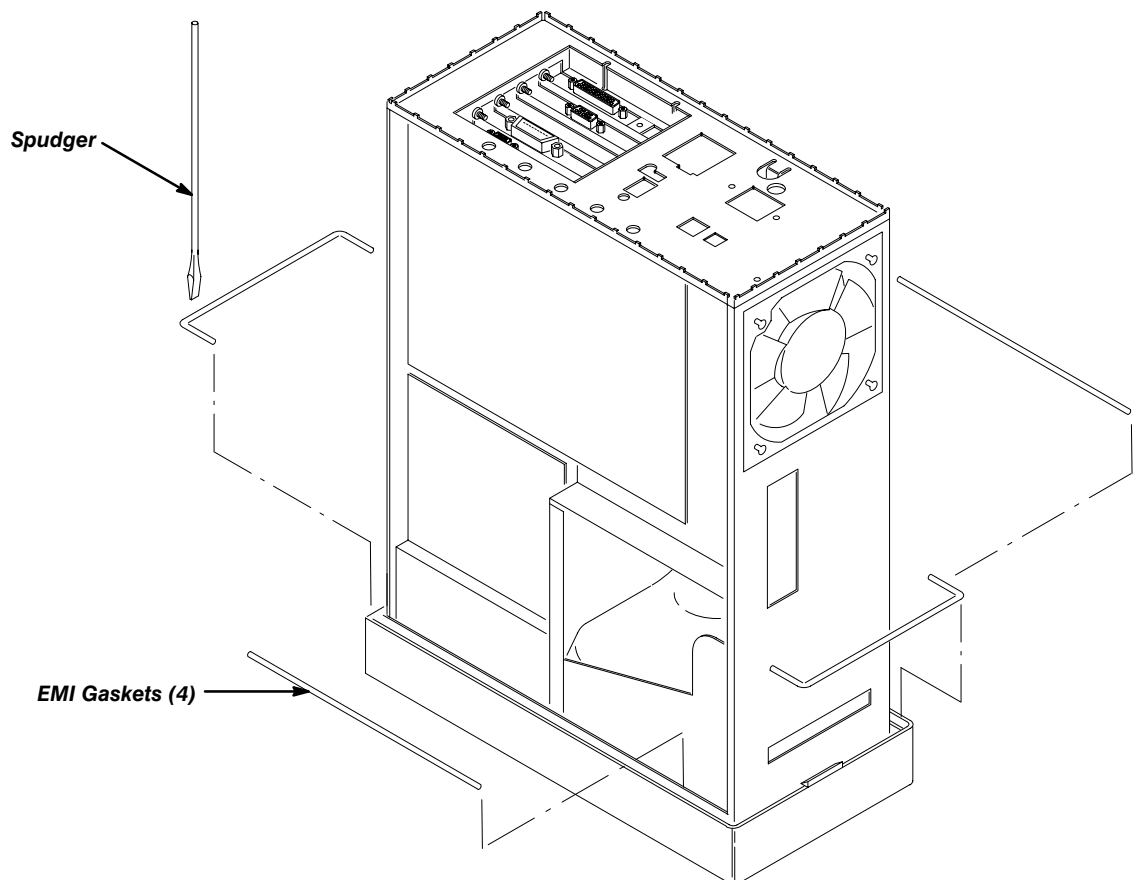

**Figure 8-6: Trim Ring, Menu Elastomer, and Menu Buttons Removal**
3. Grasp the trim ring by its top edge, pry it up, and lift it forward to snap it off the top front of the main chassis (see Figure 8-6).